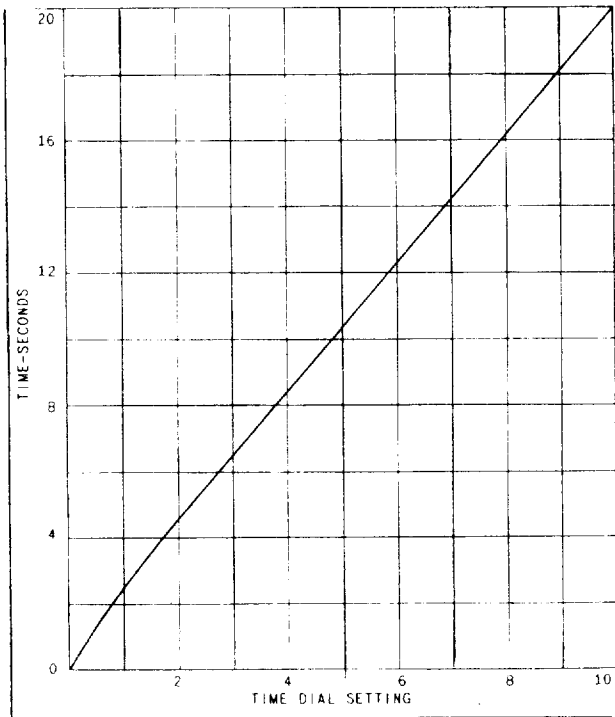
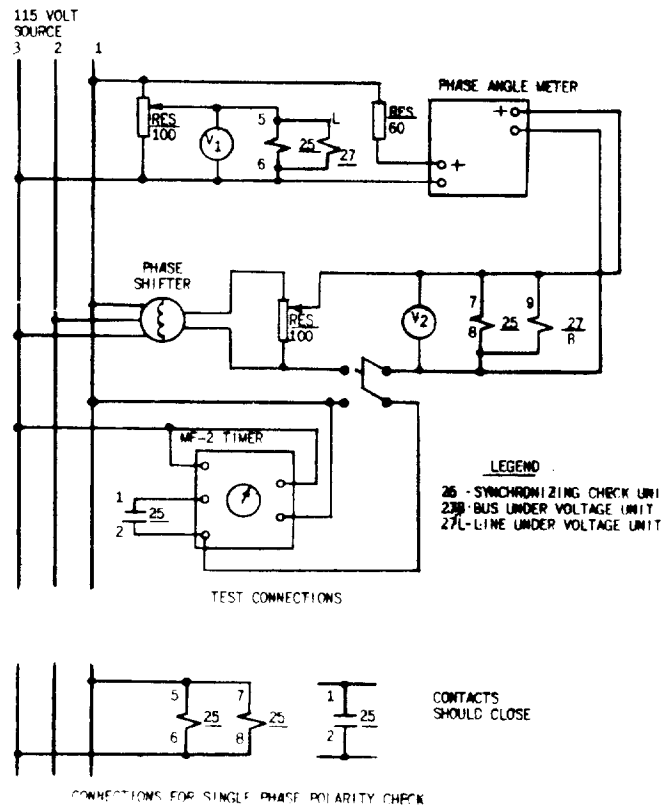

Figure 6 (K-6400150-2) Operating Time of Type IJS Relay with 20° Closing Angle at 0° Phase Displacement, Rated Voltage, 50/60 Cycles on Both Circuits
Figure 10 (0165A7533-0) Time Test Connections for Relay Type IJS52D
Connect the relay as shown in Figure 10 and check the following:
1. Check that the relay picks up with approximately the time delay shown in Figure 6 when a single-phase source of at least rated voltage is connected to both operating coils.
The relay closing angle should be set as required for its permanent location, which would normally be 20°. Connect the relay as shown in Figure 10, and check that the relay picks up at the proper phase angle $\pm 3^\circ$.
When using the connections shown in either Figure 10 or Figure 11, check the operating time at 0 displacement with rated voltage on each coil, using the time-dial setting of the permanent location. See Figure 6 for nominal time-delay values.
2. Check the closing time with the potentiometer set to provide rated voltage on both circuits. The time should agree with the values given in Figure 6, $\pm 10\%$.
Connect the relay as shown in Figure 10. To make an accurate adjustment of the closing angle, a phase shifter and phase angle meter are required, along with a means for voltage control.
Using the connections shown in Figure 10, set V_1 at rated voltage. If a 200 closing angle is desired, set V_2 at rated voltage, leading V_1 by 200. Adjust the left-hand resistor until the contacts just close. Now, with rated voltage on both circuits, determine the angle at which the contact closes with V_2 lagging V_1 . If the two angles are unequal, equalize them at 200 by adjusting the right-hand resistor. Then check the closing angle with V_2 leading V_1 , and readjust if necessary. Continue this procedure until the relay contacts just close for V_1 leading or lagging V_2 by 200. Use the same procedure for other closing-angle settings.
If it is necessary to adjust the time characteristics, impose the chosen conditions on the relay, using connections shown in Figure 10, and adjust the time dial and, if necessary, the drag magnet until the correct operating time is obtained.